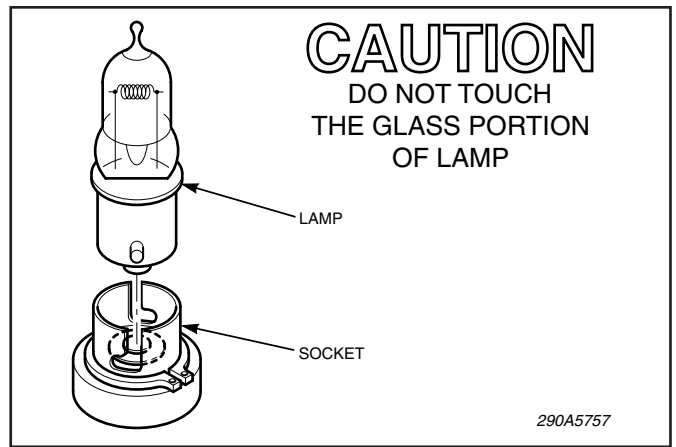

Figure 1.
a. Work lamps: See figure 1. To replace the lamp, twist to unlock and then pull the defective lamp out of the socket. Install a new lamp of the same type in the socket.
b. Takedown lamps: See figures 1 and 2. Remove the four PCB screws and invert the PCB to access the lamp.